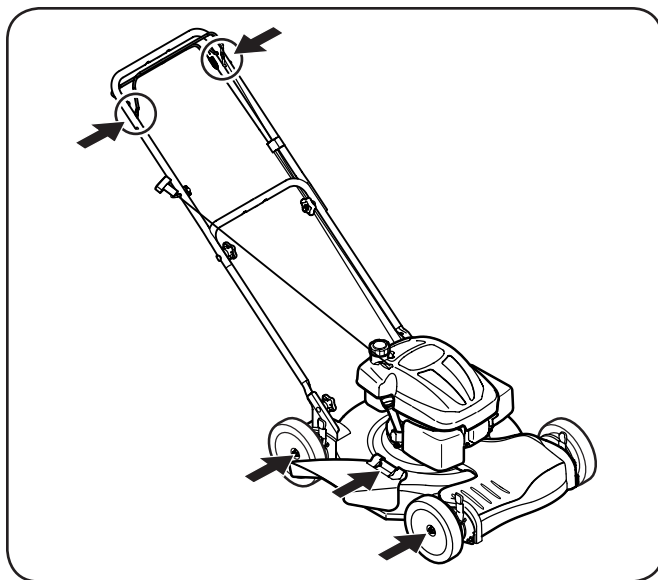

Figure 6-1
1. Lubricate pivot points on the blade and drive controls at least once a season with light oil. These controls must operate freely in both directions. See Fig. 6-1.
2. Lubricate the wheels at least once a season with light oil (or motor oil). If wheels are removed for any reason, lubricate surface of the pivot arm and inner surface of the wheel with light oil. See Fig. 6-1.
3. Lubricate the torsion spring and pivot point on the side discharge chute periodically with light oil to prevent rust. See Fig. 6-1.